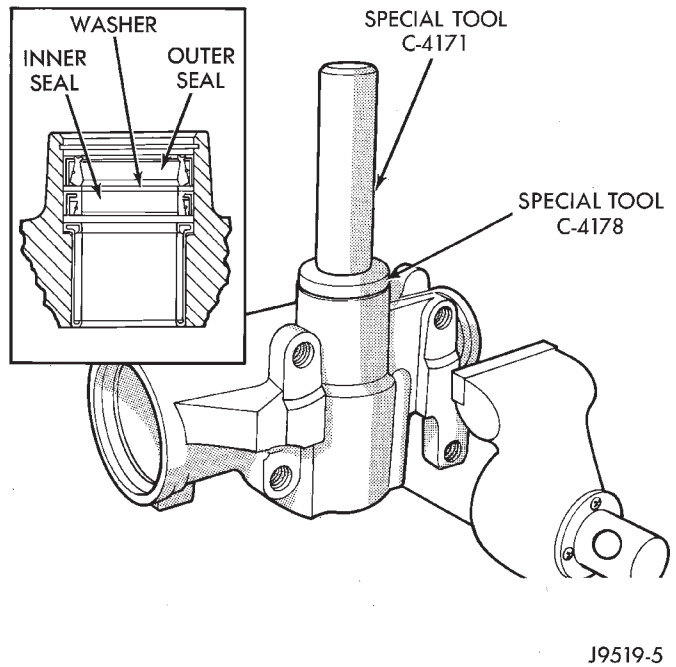

Fig. 39 Pitman Shaft Seal Installation
(2) Install single lip seal with tool C-4178 and handle C-4171 or a suitable size socket (Fig. 39).
(3) Coat the double lip seal and washer with grease.
(4) Install the backup washer.